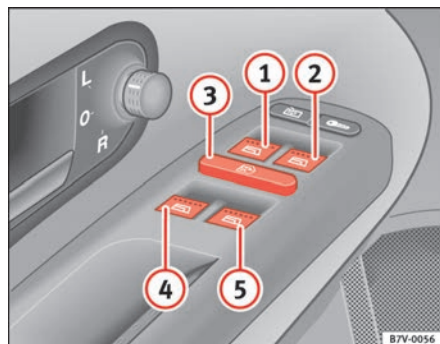

Fig. 64 Detail of driver door: buttons for front and rear electric windows
- Press button ⇒ fig. 64 ①, ②, ④ or ⑤ to open the corresponding window.
Safety switch ⇒ fig. 64 ③ in the driver door can be used to disable the electric window buttons in the rear doors.
The one-touch closing and opening of the electric windows can only be controlled with the switches on the driver's door. The buttons ⇒ page 102, fig. 64  and  have two levels for opening the front windows and two for closing. This makes it easier to open or close windows to the desired position.